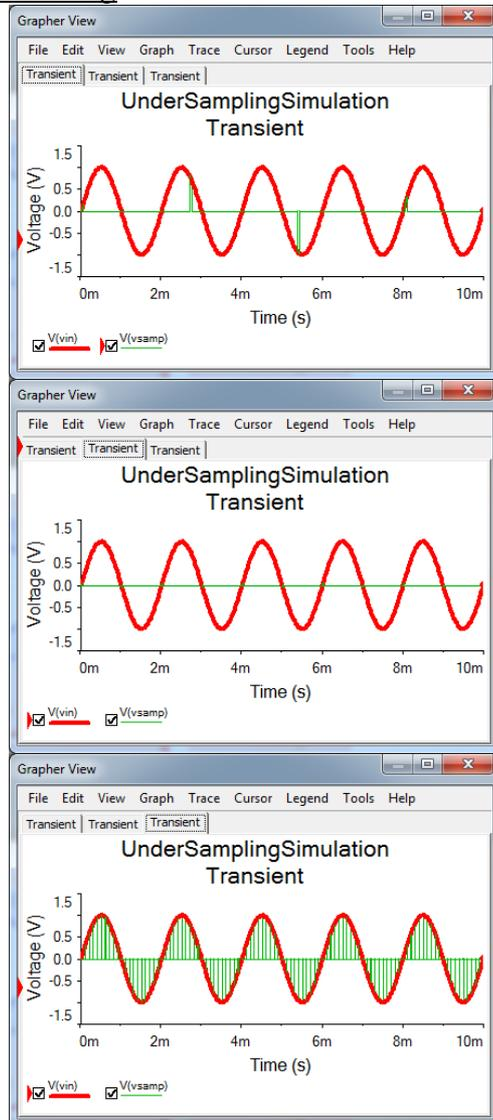

Figure 1.3 Under-sampling (up), sampling at Nyquist limit (middle) and oversampling (down) a sinusoidal signal
Under-sampling means using a sampling frequency below that allowed by the sampling theorem, as in Figure 1.3, up. The collected samples do not correctly represent the signal of which were extracted.
Sampling a signal at the Nyquist limit frequency, still does not allow the rebuild of the initial signal. In Figure 1.3, middle, the input signal is sinusoidal, having a single spectral component. Two samples are
- “zero” points of the input signal (as in Figure 1.3, middle).
Choosing a sampling frequency (much) higher than required by the sampling theorem is called over-sampling. The resulting samples represent more correct the original input signal as the over-sampling rate increases. Figure 1.3, down, illustrates a sinus signal over-sampled by a factor of 10 (10 time more than required by sampling theorem, which is 20 times the highest frequency in the spectrum).